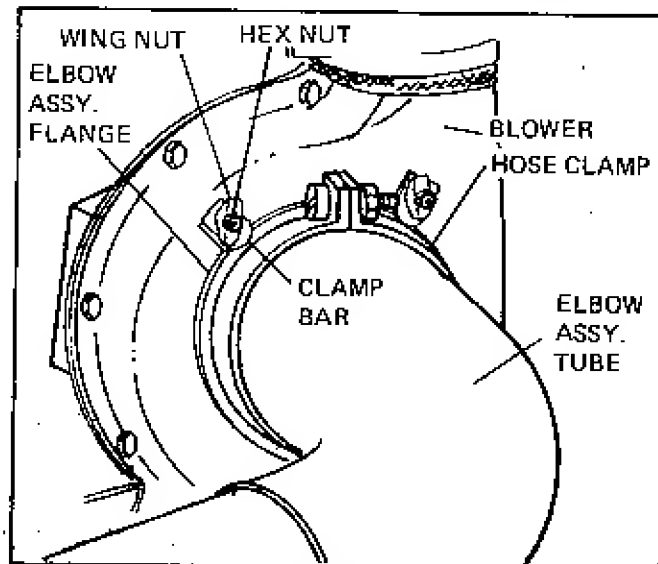

FIGURE 4
6. Install elbow assembly flange on blower and secure flange to blower with two clamp bars, wing nuts, and hex nuts. Secure flange to elbow tube with hose clamp, machine screw, lockwasher and nut (Figure 4). Be sure to tighten hose clamp.